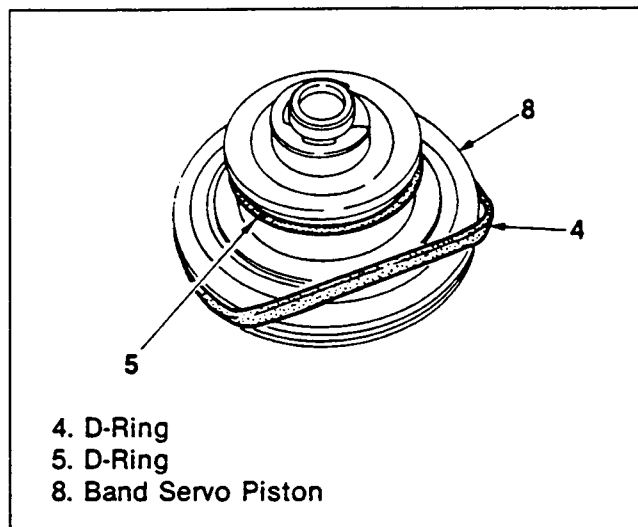

Figure 219. D-Ring Installation
3. Apply automatic transmission fluid to new D-rings (2 pcs), and fit them to the band servo piston (figure 219).